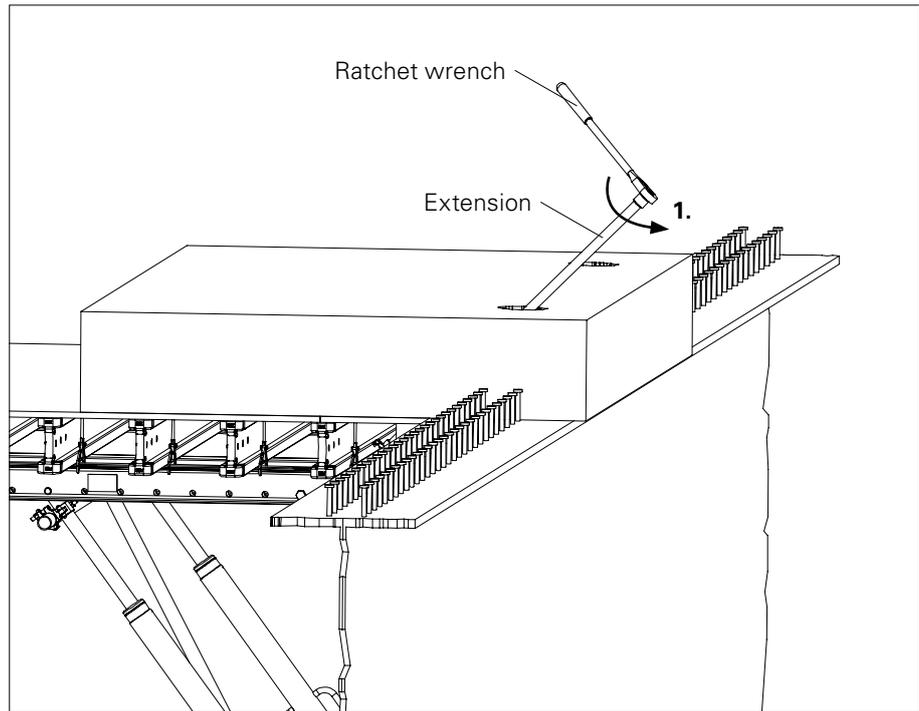

Fig. D3.02
1. Use a Socket Wrench SW 30, an extension and a ratchet wrench to unscrew the tube nut from the Tie Rod DW 15. (Fig. D3.02)